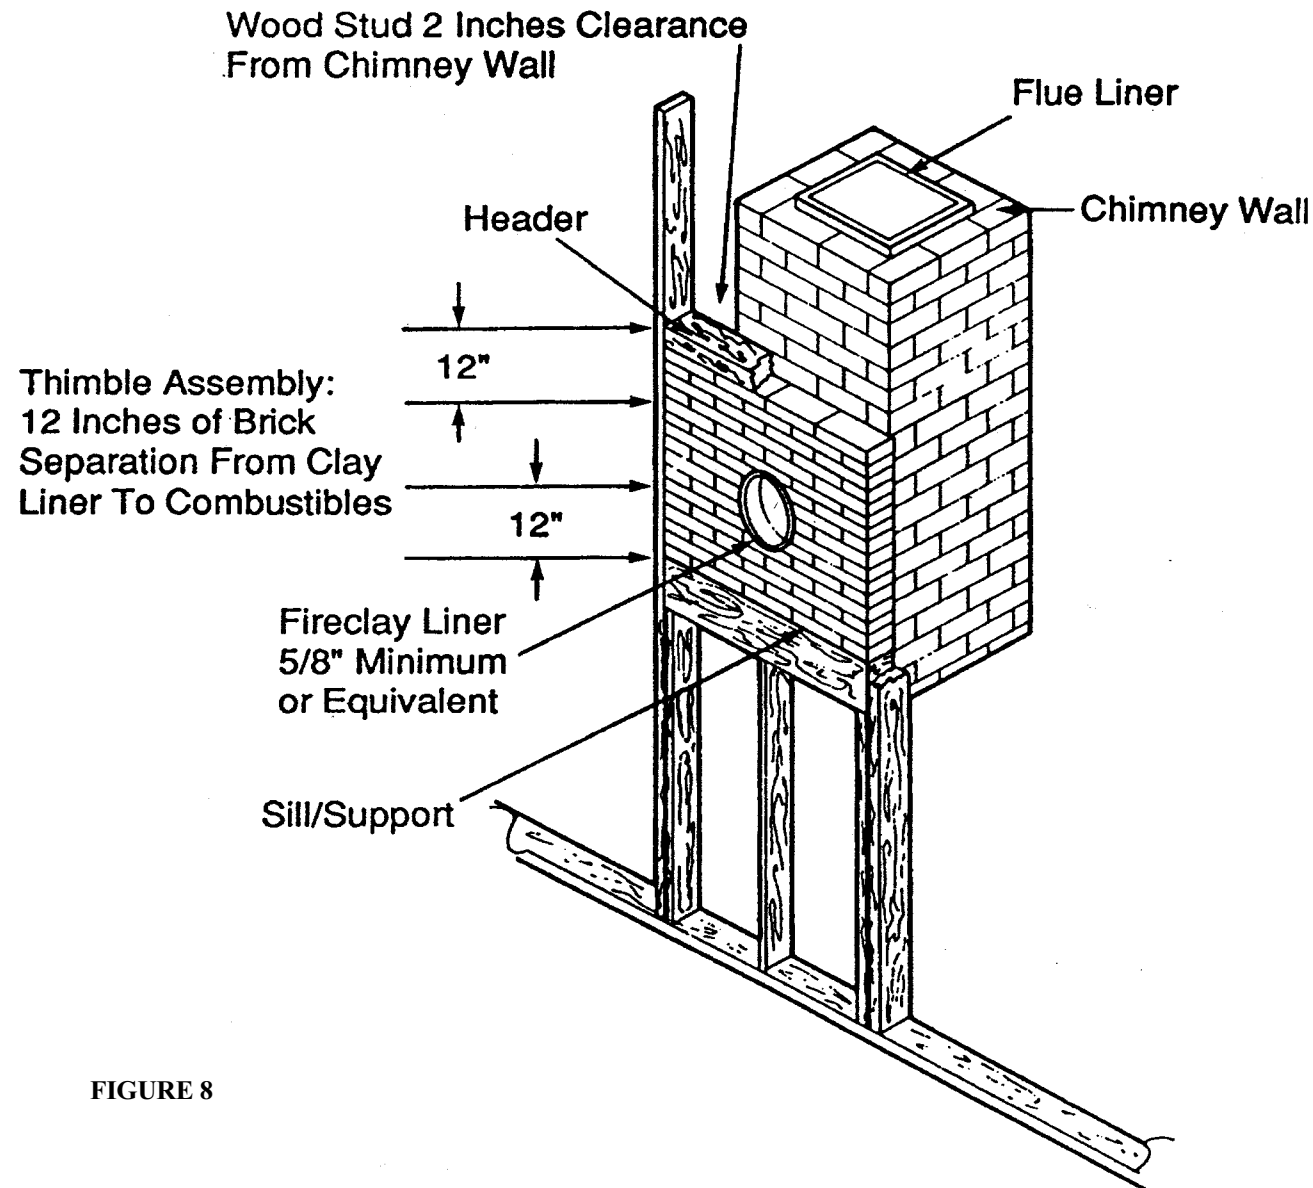

FIGURE 8
- A. **BRICK CHIMNEY THIMBLE ASSEMBLY:** Construction of the brick thimble assembly requires 12" (305mm) of brick around a fire clay liner. Be sure the point of penetration allows an 18" (457mm) clearance from the connector to the ceiling. For a 6" (152mm) chimney connector, an opening of 30" (762mm) must be cut in the wall to maintain the required 12" (305mm) of brick separation from combustibles. It will be necessary to cut wall studs and install a header and sill frame to maintain proper dimensions and to hold the weight of the brick (Figure 8).